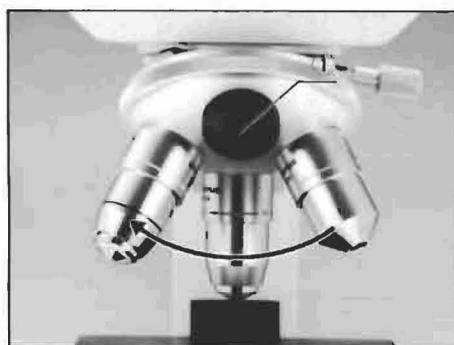

Fig. 3
- 2) Screw the objectives into the nosepiece, from low power to higher power in a clockwise direction. (Fig. 3)
- ★ Close the empty aperture in the nosepiece with a plug (1) provided. (Fig. 3)